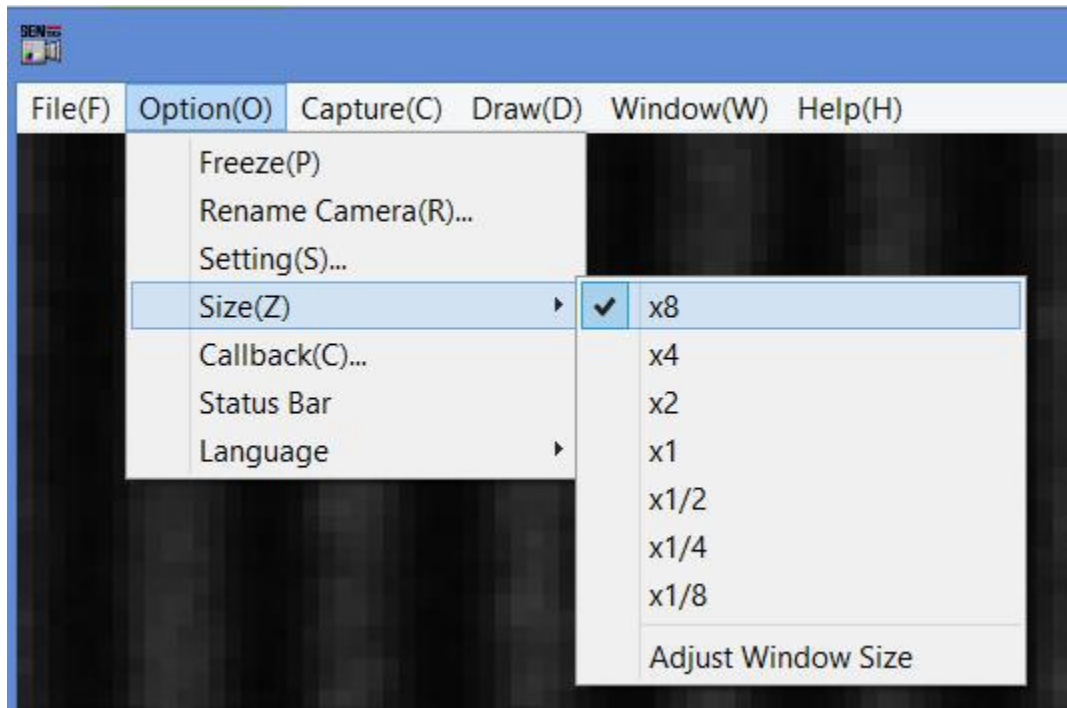

Figure 50 StcamSware GUI
50. Then, Go to StCamSware GUI ->Option and Select Size (Z) “x 8” as below Figure 50.